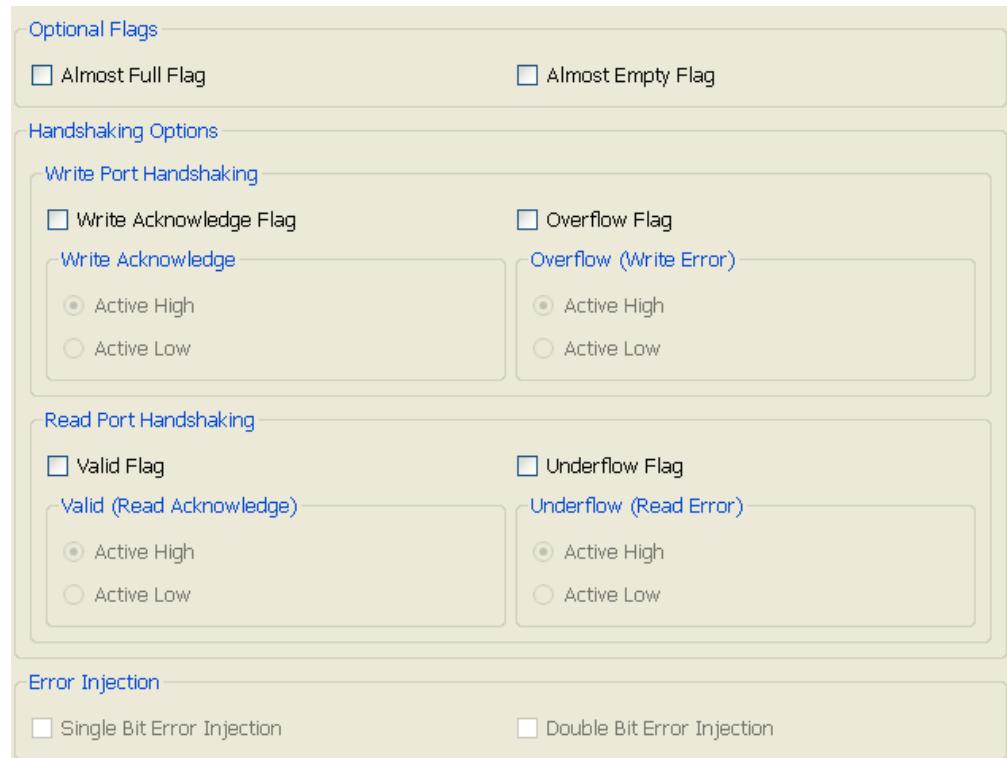

**Figure 8-8: AXI4 Interface FIFO: Page 4 - ECC Selection**
Figure 8-6, Figure 8-7 and Figure 8-8 show the equivalent settings of Figure 8-5 in the AXI4-Stream GUI.
- The ECC can be enabled through Enable ECC in Page 4 of the AXI4-Stream FIFO GUI, as shown in Figure 8-8.